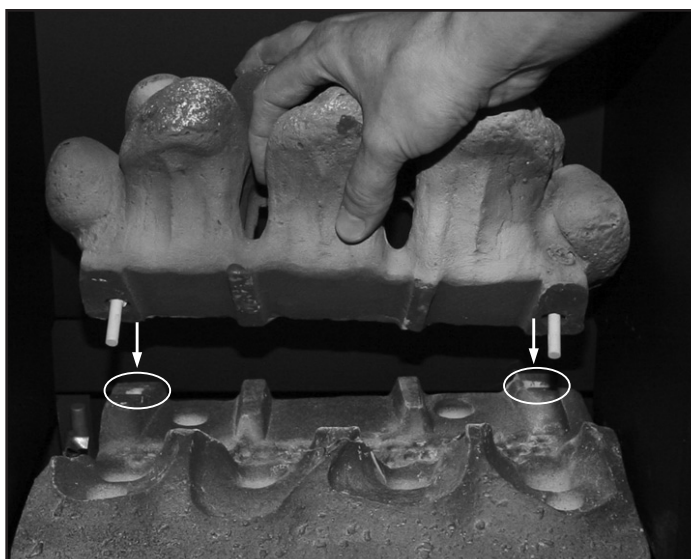

Figure 44: Installation of Rock Cluster.
2. Place the rock cluster onto the burner. There are two (2) holes at the back corners of the burner and two (2) aligning pins on the bottom of the rock cluster (refer to Figures 44 & 45).